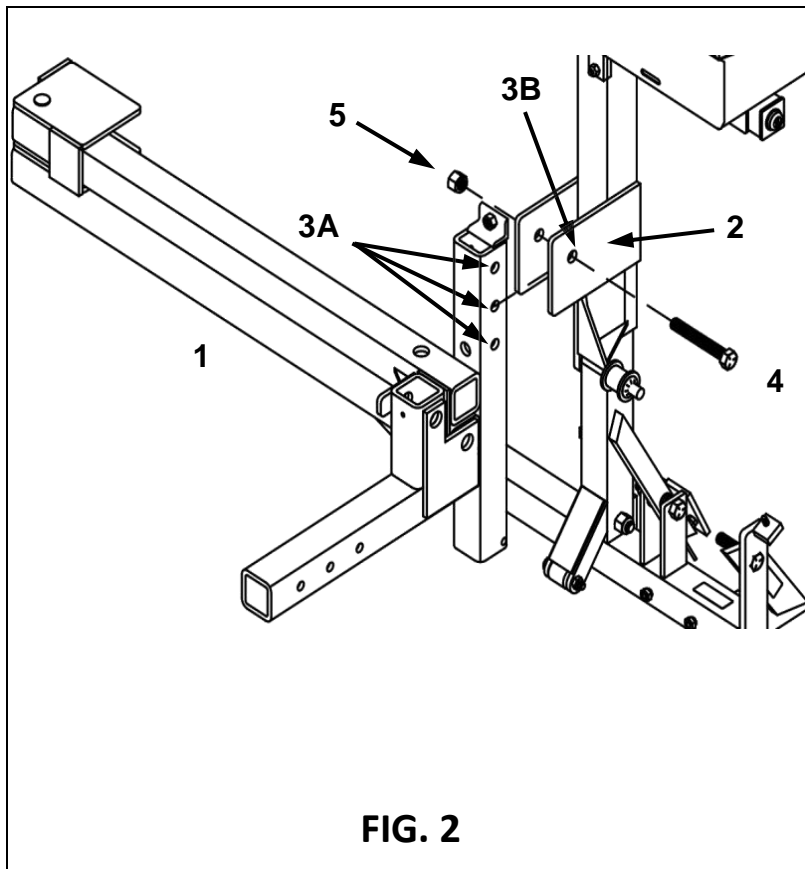

FIG. 2
1.1 Slide SWINGAWAY (FIG 2, item 1) into bracket (FIG. 2, item 2); align one of the holes (FIG. 2, item 3A) with the hole (3B).
1.2 Insert 1/2"-13 x 3 1/2" bolt (FIG. 2, item 4) through bracket and SWINGAWAY.
1.3 Install on the 1/2"-13 locknut (FIG. 2, item 5) onto bolt (FIG. 2, item 4) and tighten to a point which allows the mast to freely swivel on the SWINGAWAY.